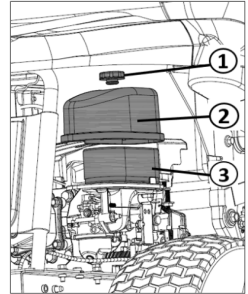

Figure 38
3. Unscrew the mounting screw (Figure 38 ①).
4. Pull the air filter cover (Figure 38 ②) upwards off the guide.
5. Pull the air filter (Figure 38 ③) off the guide.